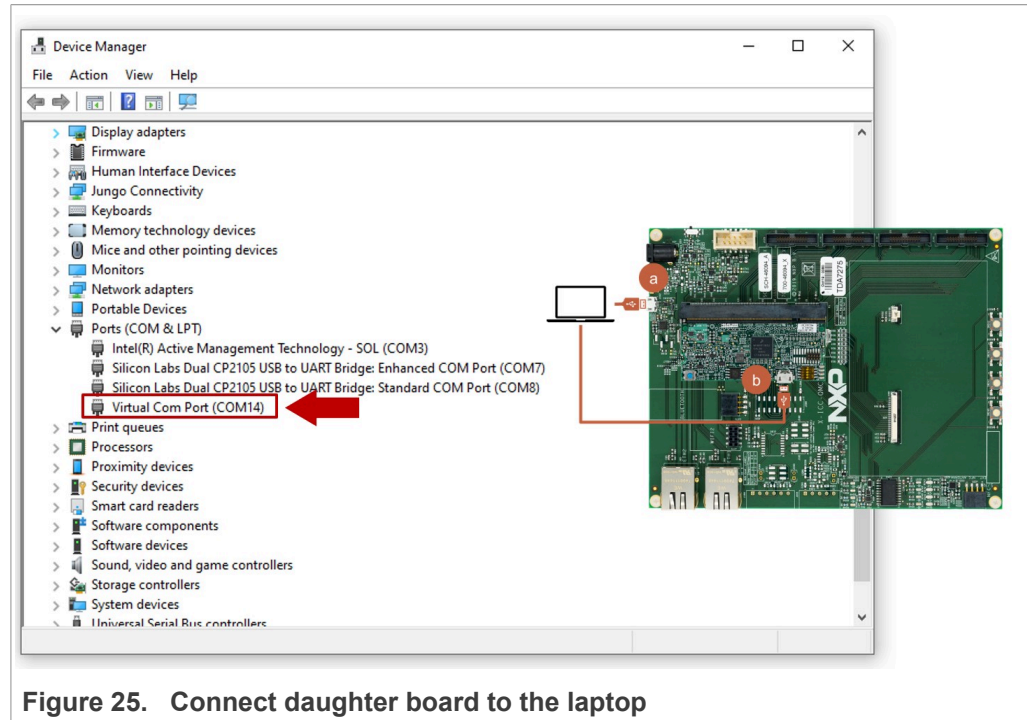

Figure 25. Connect daughter board to the laptop
- The serial VCOM port should be recognized by your Device Manager, as shown in Figure 25.